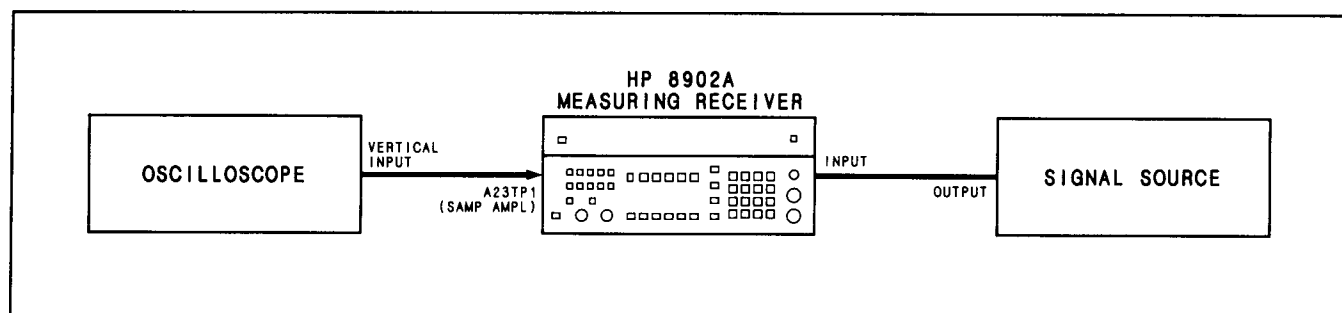

Figure 5–2. Sampler Efficiency and Offset Adjustment Test Setup
2. Connect the equipment as shown in Figure 5–2. (The oscilloscope input should be ac coupled. The signal source can be connected either to a sensor module or directly to the Measuring Receiver's INPUT.)